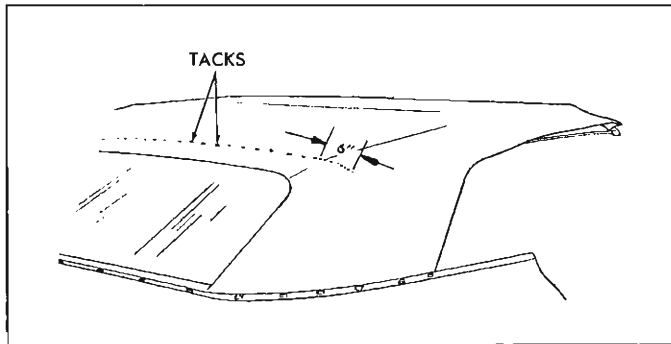

Fig. 74—Tacks Outboard of Seams
**IMPORTANT:** Tacks must be installed along a straight line in center of rear bow (see Figure 74). Tacks outboard of deck seams should be restricted to distance not to exceed six inches, which is length wire-on binding extends past seam (fig. 74).